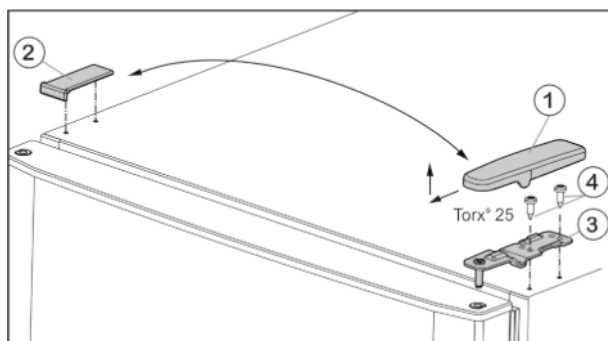
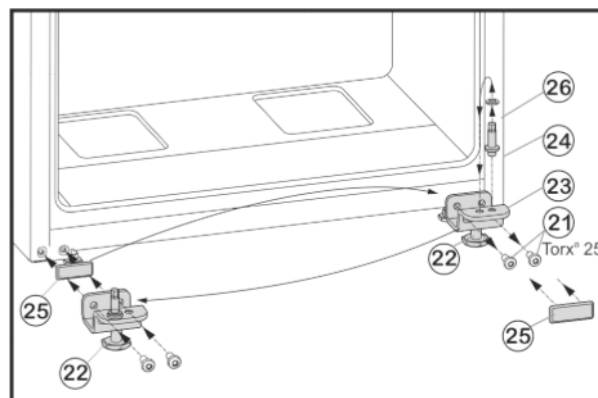

Fig. 4
Fig. 6
- Pull off the cover Fig. 4 (1) forwards and upwards.
- Lift off the cover Fig. 4 (2).
- Unscrew the upper turn hinge Fig. 4 (3) (2x Torx® 25) Fig. 4 (4) and lift it off.
- Unscrew fastening screws Fig. 6 (21).
- Remove the lower bearing block Fig. 6 (23), complete with bearing bolt Fig. 6 (24), washer Fig. 6 (26) and adjustable foot Fig. 6 (22).
- Unscrew the bearing bolt Fig. 6 (24), complete with washer Fig. 6 (26), re-locate it into the mounting hole on the opposite side of the bearing block and tighten again.
- Carefully remove the cover plate Fig. 6 (25) and re-locate it to the other side.
- Fasten the lower bearing block Fig. 6 (23), complete with bearing bolt Fig. 6 (24), washer Fig. 6 (26) and adjustable foot Fig. 6 (22) to the new hinge side, with the help of a cordless screwdriver if necessary, and **tighten (with 4 Nm)** once again.
- Lower the bottom door onto the bearing bolt Fig. 6 (24).
- Insert the centre bearing block (13) turned through 180° into the lower door and fasten firmly (**with 4 Nm**) to the new hinge side with the fastening screws (2 x Torx® 25).
- Refit plastic washer (10).
- Insert the upper turn hinge Fig. 4 (3) in the door on the new hinge side.
- Screw in the upper bearing block **tightly (with 4 Nm)** (2 x Torx® 25) Fig. 4 (4). Use a cordless screwdriver if necessary.
- Fit the cover Fig. 4 (1) on the opposite side by sliding it rearwards and latching it into place.
- Press the cover Fig. 4 (2) on the opposite side down into place until it latches.
- Unscrew the adjustable foot Fig. 6 (22) on the lower bearing block Fig. 6 (23) until it reaches the floor.